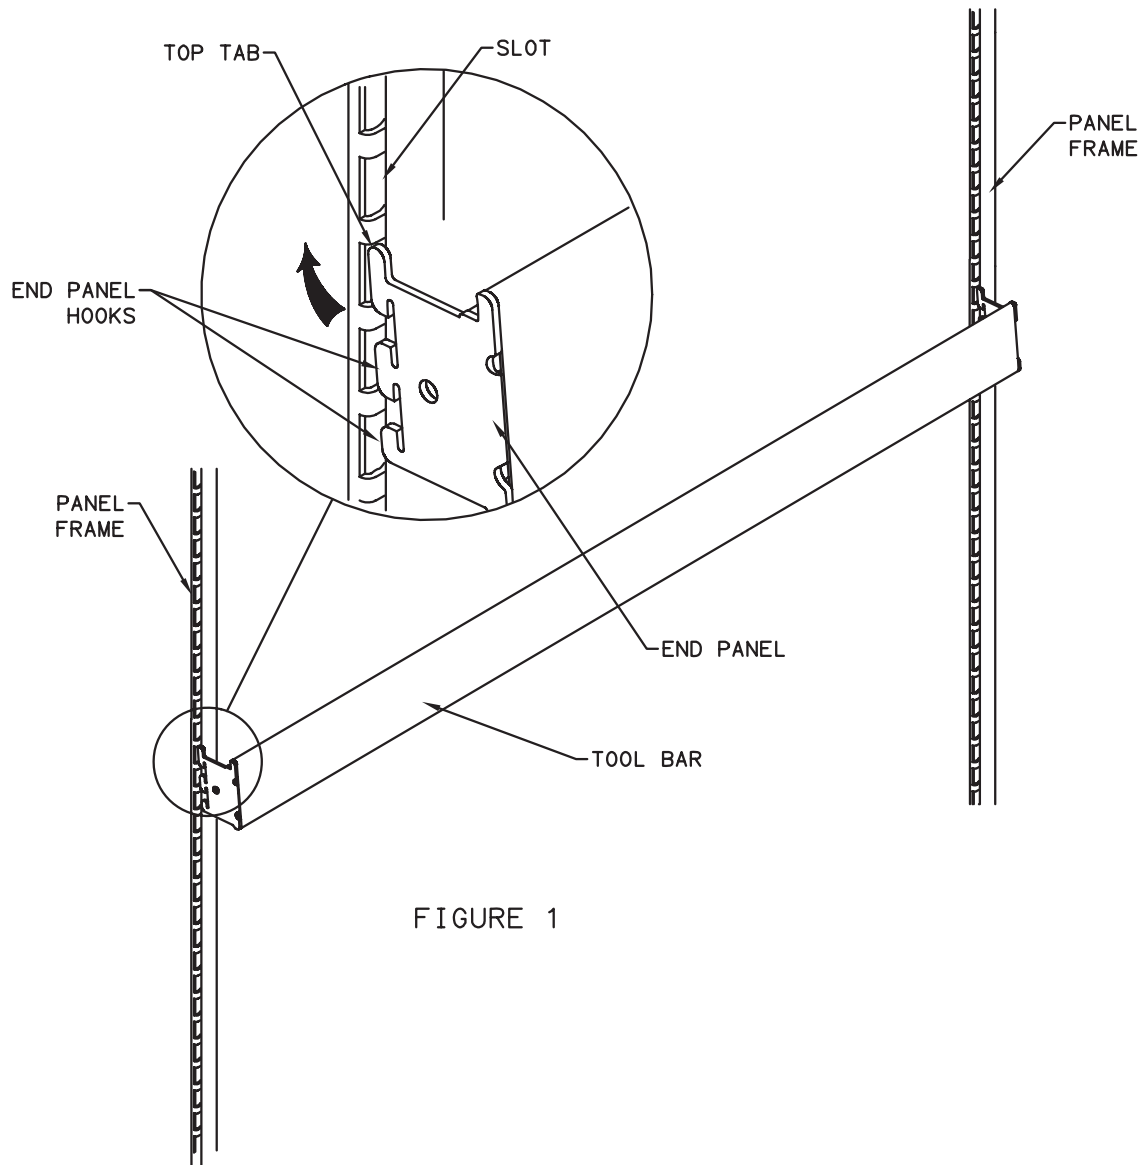

FIGURE 1
1. POSITION END PANELS OF TOOL BAR OVER PANEL FRAMES OR WALL HANGER STRIPS AT DESIRED HEIGHT. ALIGN HOOKS ON END PANELS WITH SLOTS ON PANEL FRAME. SEE FIGURE 1.
2. ROTATE TOOL BAR BACK. INSERT TOP TAB ON EACH END PANEL INTO PANEL FRAME SLOTS OF EQUAL HEIGHT. ROTATE FRONT OF TOOL BAR DOWN TO ENGAGE ALL END PANEL HOOKS INTO SLOTS. SEE FIGURE 1.
3. LOCK TOOL BAR IN PLACE BY PUSHING DOWN ON EACH END PANEL UNTIL BOTH ENDS ARE FULLY SEATED. SEE FIGURE 1.